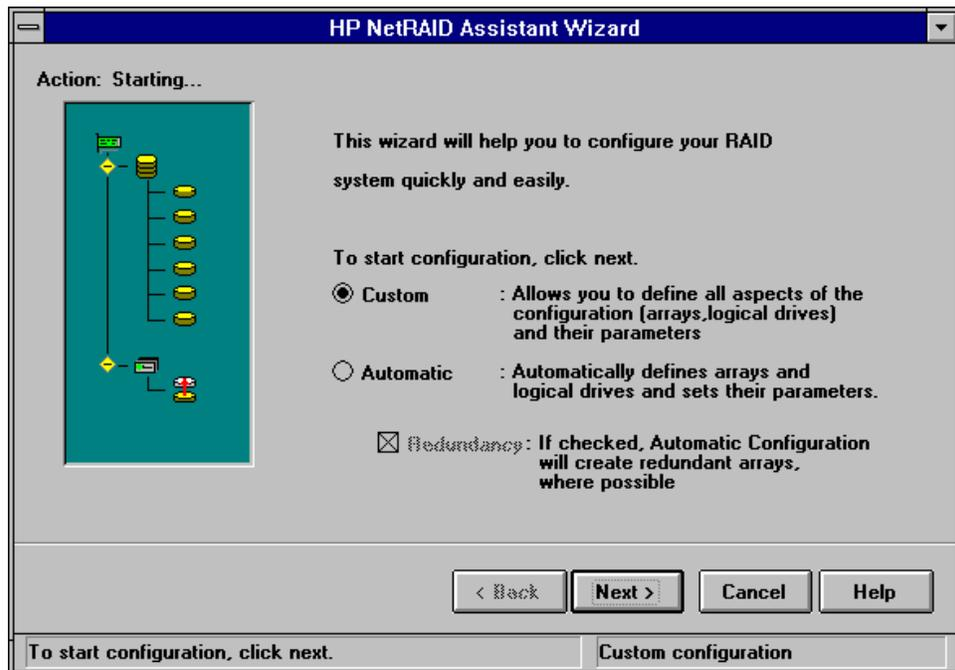

Figure 5-5. HP NetRAID Assistant Wizard Starting Window
2. Choose the **Wizard**. The Wizard starting window is displayed, as shown in Figure 5-5, with a choice of Custom and Automatic configuration modes.